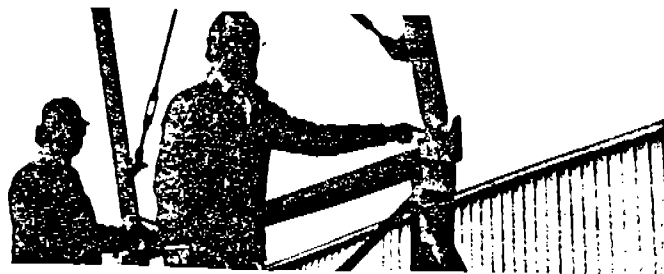

Fig. 36
- e. Using the hydraulic system, adjust the position of the support arms. Line up the holes of the support arms and the ears on the standing support brackets. *Pin and key in place.* (Fig. 36)